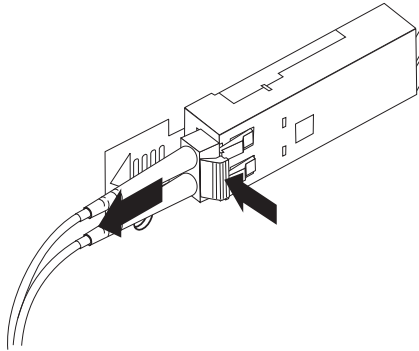

Figure 33. Removing the LC-LC Fibre Channel cable
2. While pressing down the cable lever, carefully pull on the connector to remove the cable from the SFP module, as shown in Figure 33.